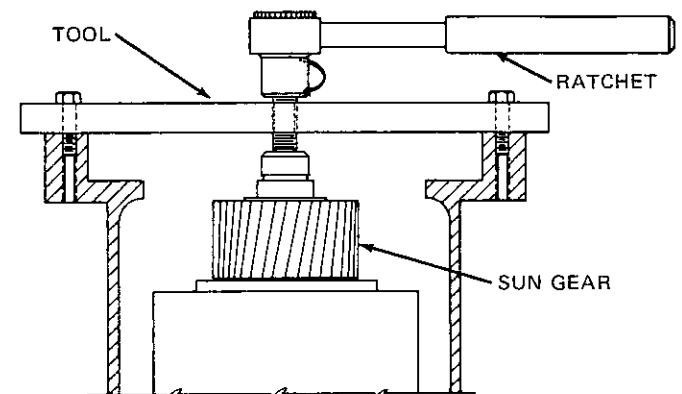
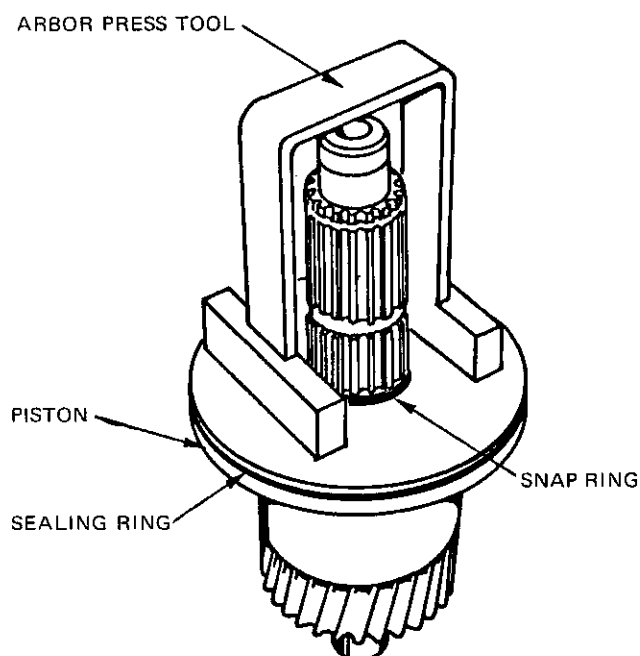

FIG. 6 PRESS AGAINST SUN GEAR SHAFT.
FIG. 7 ASSEMBLE PISTON & SNAP RING
- 1) Use a tool similar to the one shown in Fig. 6 to press against the end of sun gear and output shaft (54), while completing steps two through five, inclusive.
- 3) Remove bearing retainer to case bolts (4) and lockwashers. Remove bearing retainer (7) and bearing spacer (12) from transmission case. It may be necessary to use a large plastic hammer to help free retainer from case.
- 4) Remove the "O" ring (9) from behind bearing.
- 7) Remove the snap ring (58) from clutch cylinder.
10) Position remaining clutch parts, with a tool similar to the one illustrated in Fig. 7 on an arbor press and compress clutch return spring, then remove snap ring (34) from behind clutch piston.
11) Remove clutch piston (36), and spring (50) from sun gear and output shaft (54). Remove sealing ring from clutch piston.
12) Remove the two cast iron sealing rings (32) from rear of clutch housing.
13) Inspect the bearing cups (10) in case and retainer. Remove only if replacement of cups is required.
2) Use a tool similar to the one shown in Fig. 6 to press against the end of sun gear and output shaft, while removing the snap ring which retains reduction unit gears to forward and reverse transmission output shaft. Slide reduction unit parts from shaft.
3) Complete steps six through twelve inclusive of section "To Complete Disassembly of Forward and Reverse Transmission" except, following step No. 8, complete the following instruction: Place clutch cylinder and sun gear under an arbor press and compress clutch spring to permit removal of "O" ring backing plates (53) and "O" ring (54). The "O" will be positioned in the shaft groove behind the annular bearing on a few early transmissions.
4) Remove the snap ring (17) from bearing retainer (23) and remove ring gear (18) and ring gear hub (19) from 3:1 units. Remove snap ring (19) and pinion cage assembly (20) from 2:1 units.
6) Pull bearing (32) from case. It will be necessary to remove the snap ring (23) from bearing snap ring groove on 1.5:1 units, so that a puller may be installed in bearing groove.
8) Remove bearing retainer to reduction housing bolts (1). Remove bearing retainer (27) and rear bearing cone.
9) Assemble a sealing ring (35) in forward clutch piston (36) groove. Lubricate the sealing ring and position piston over sun gear shaft and rest on spring.
10) Place parts assembled in steps eight and nine in an arbor press and with a tool similar to the one shown in Fig. 7, press the piston and spring down, then assemble a snap ring (34) in shaft groove behind piston.
11) Assemble clutch cylinder (33) over output shaft and piston assembly. Check, after assembling these parts, to be sure that clutch sealing rings were not sheared or damaged.
12) Start with a steel plate (56) and alternate friction (55) and steel plates until six sets of plates, a pressure plate (57) and snap ring (58) are assembled into clutch cylinder. The steel plates are coned to give a better clutch release in neutral. The cone of all steel plates should face in the same direction, preferably concave forward.
1) Press a bearing cup (10) into transmission case bore. Press a bearing cup into bearing retainer. These cups will normally be left in position and replacement will not be required. Press a new oil seal (3) into bearing retainer until rear face of seal is flush with retainer rear face.
2) Assemble the bearing spacer (31) over output shaft and against clutch cylinder rear face.
- 4) Install the tool Fig. 6 to front of case and adjust the screw against front face of shaft to press parts rearward until they just bottom on case.
- 5) Assemble bearing cones (11) back to back over output shaft and against the spacer.
- 6) Assemble an "O" ring (9) in output shaft groove just behind the rear bearing cone.
- 7) Assemble the lube line cover (14) and the two retaining bolts (13). A few early cases do not require this lube line cover.
- 8) Assemble case rear gasket (8) to case. Assemble the bearing spacer (12) into retainer bore then assemble retainer to transmission. Replace the six 7/16-14 X 1 inch hex head bolts (4) and lockwashers (5).
- 9) Assemble coupling (2) and output shaft nut (1) then remove the tool from front of transmission case. Permatex or a similar sealer should be applied to output shaft splines and under output shaft nut to prevent leakage around shaft splines.
- 10) Stand the transmission on it's coupling and install the thrust needles (59) on front face of sun gear.
- 11) Inspect the needle bearing (61) which is located in input shaft and carrier assembly bore, and replace if necessary. Press a new bearing in until rear face is 7/8 inch below rear face of carrier assembly.
- 12) Assemble needle thrust bearing race (60), with flange facing forward, into bore and against face of input shaft and carrier assembly.
- 14) Place the flat needle thrust race (66) followed by the needle thrust bearing (59) on the forward thrust face of carrier assembly.
and use a tool similar to the one shown in Fig. 6 to press against sun gear shaft until the snap ring is installed in shaft groove.